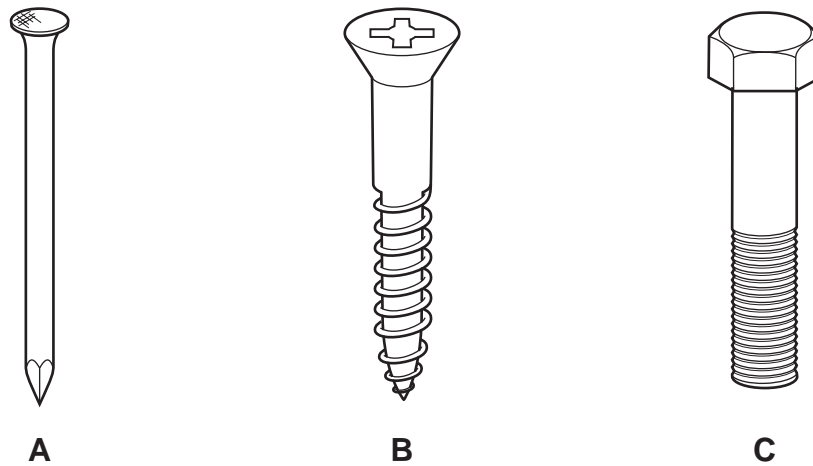

Fig. 7
13 Fig. 7 shows three different fixings used when joining materials.
- (a) Name the **three** fixings shown in Fig. 7 and give a use for each. [6]